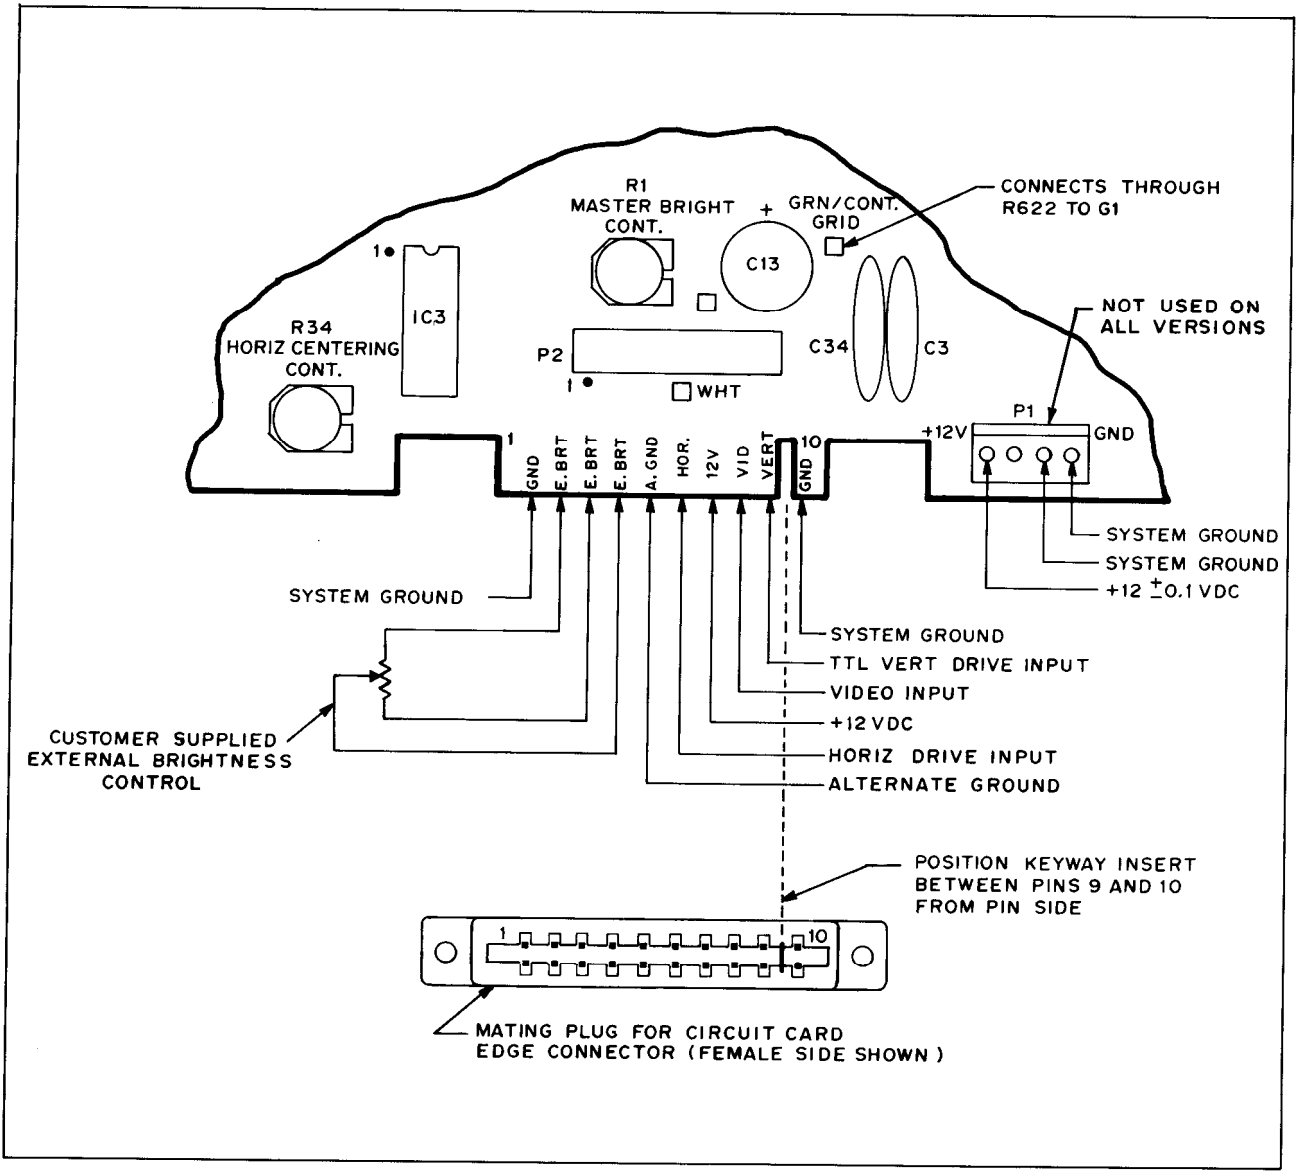
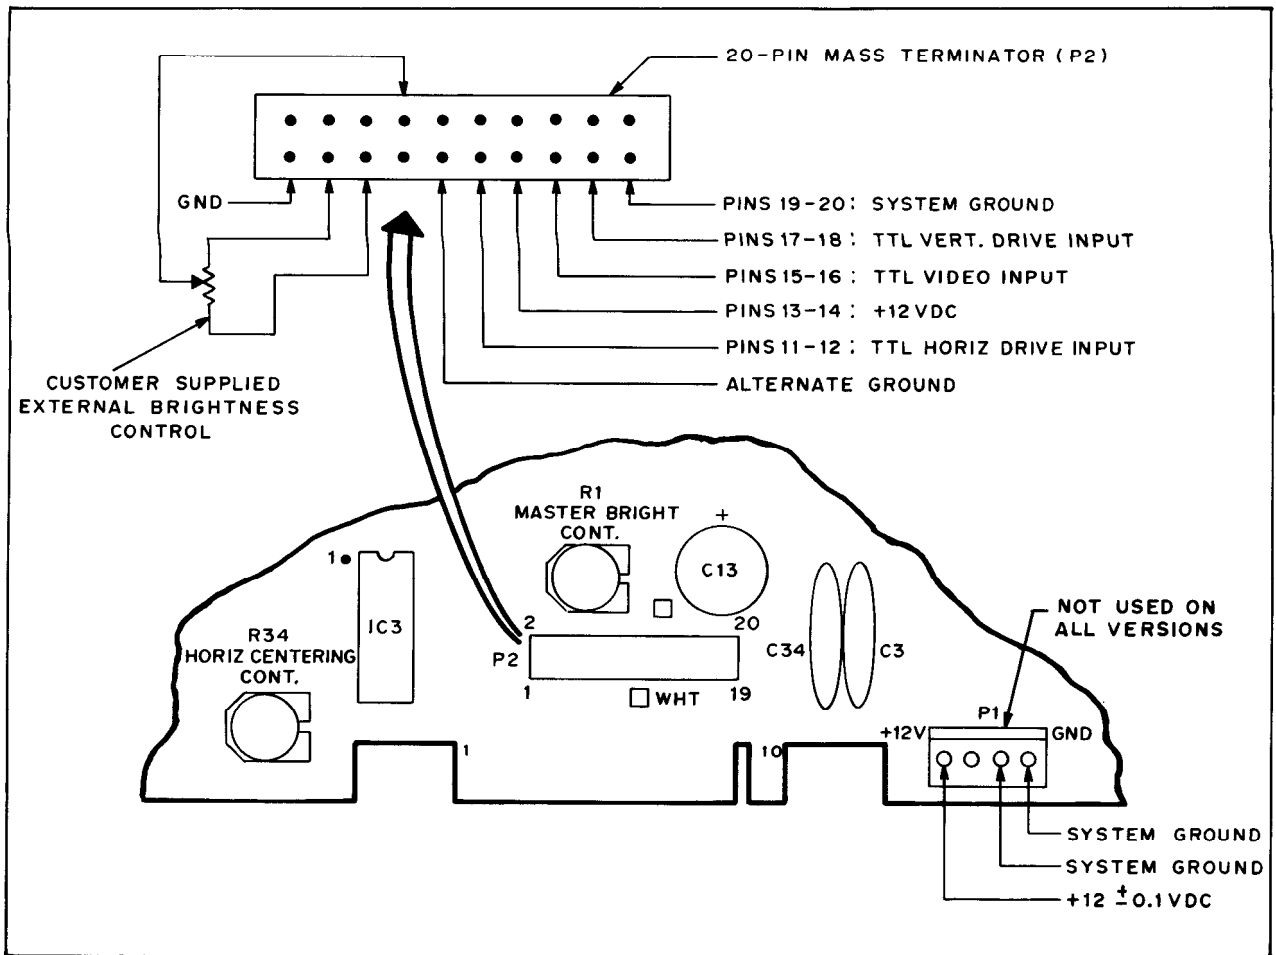

FIGURE 7: Connections for Signal Input and Power Showing Card Edge Connector and P1 (Partial View, Main PC Board of 12-V Version Included Above)
FIGURE 8: Connections for Signal Input and Power (When 20-Pin Mass Terminator and P1 are used)
- F. Connect signals and make adjustments after referring to "INSTALLATION" section for required specifications, cautions, et cetera. Refer to Figure 7 or 8 for input connections.
- 1. Remove video drive from pin 8 of the edge connector or, if contrast control is available, set control to minimum. Refer to Figures 7 and/or 1. If unit is connected to a 20-pin mass terminator, remove video drive from P2/pins 15-16.
- 5. Connect video to pin 8 of the card edge connector or adjust contrast control for desired level. Refer to Figures 7 and/or 1 if unit has a card edge connector. Refer to Figures 8 and/or 1 if unit has a 20-pin mass terminator.
- 1. Connect power drive signals to the edge connector or 20-pin mass terminator. Refer to Figure 7 or 8.
1. A regulated power supply delivering the appropriate DC voltage must be connected to pin 7 of card edge connector (Figure 7) or pins 13 and 14 of twenty pin mass terminator (Figure 8). The DC voltage input must have the following characteristics:
3. Refer to Figures 7 and 8 for connections.